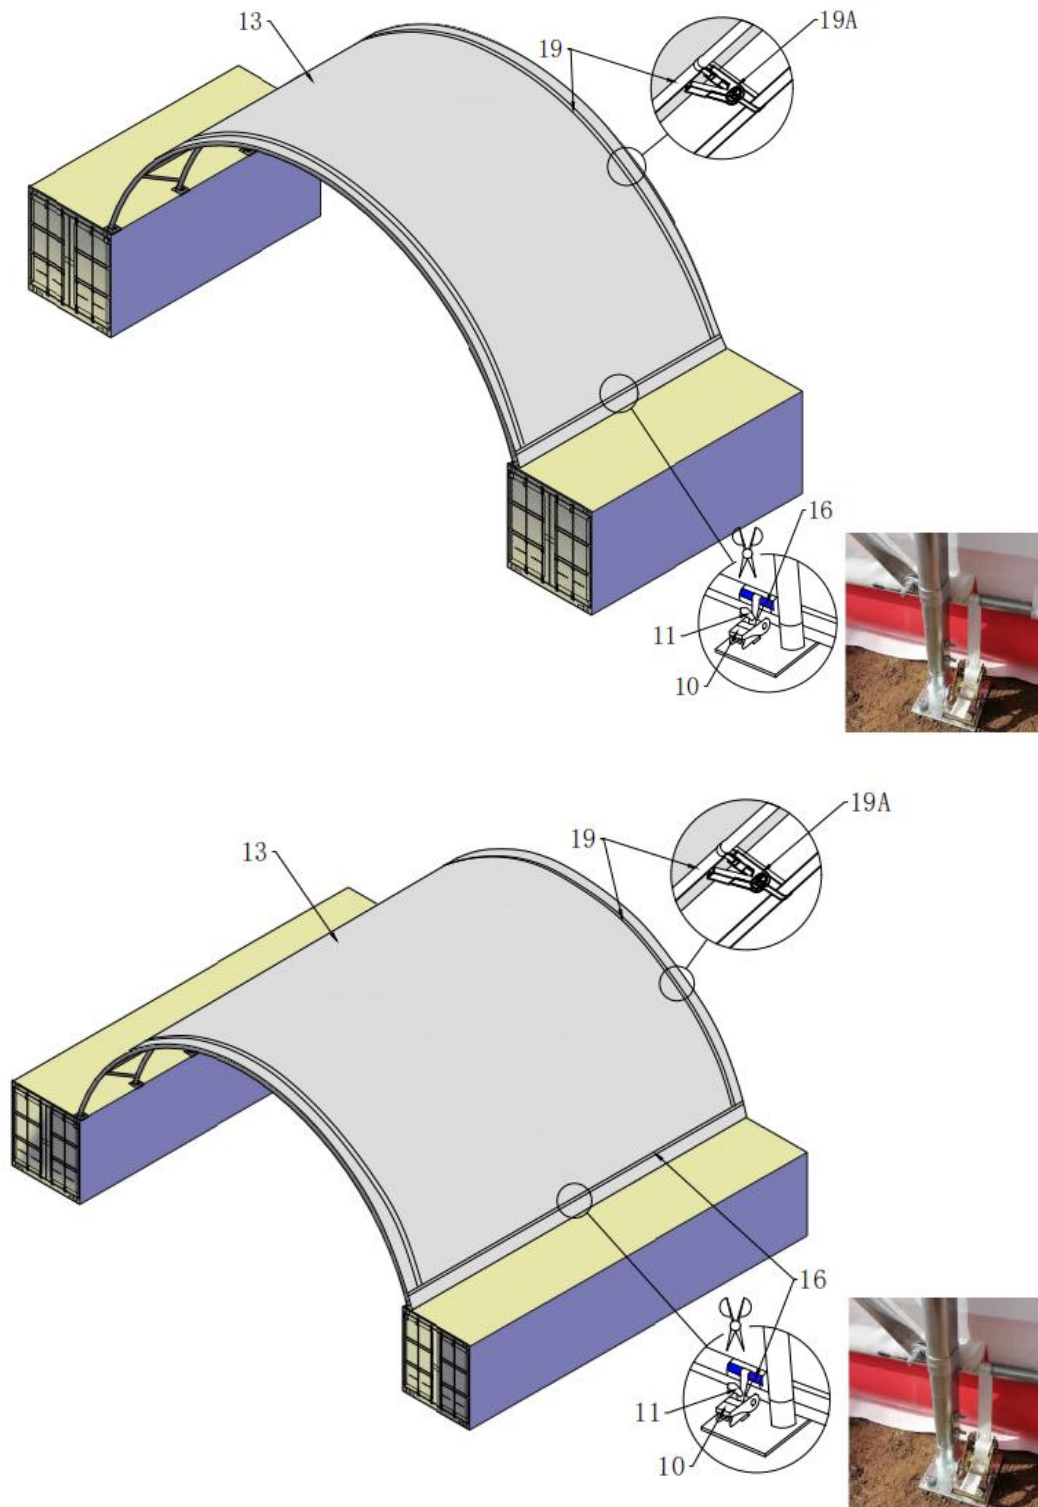

Figure 8
3. Cutting pockets over each ratchet on the base plates and put the Tensioning Tube for roof cover (No. 16) into the pocket of roof cover. Then use the Nylon band (No.11) to tie down the Lower Tensioning Tubes as Figure 8 shown. Finally install the Plastic Plug (No. 15) into two end of the Lower Tensioning Tube.